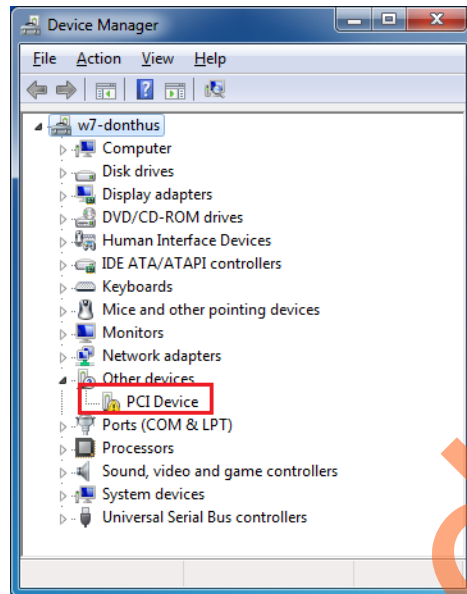
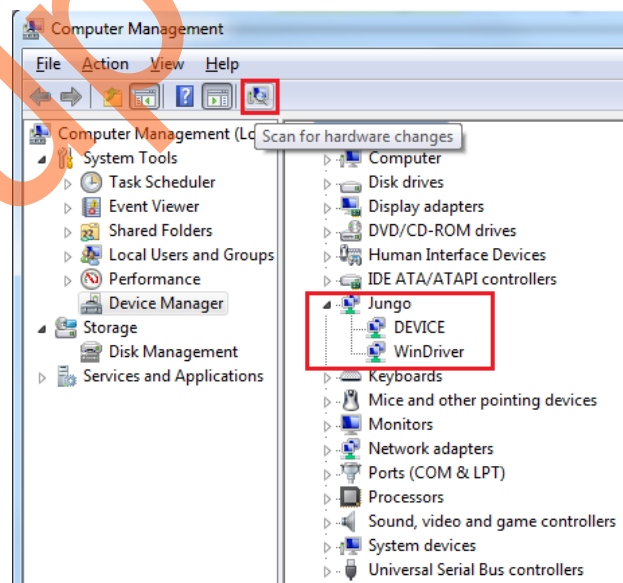

Figure 7 • Device Manager - PCIe Device Detection
Figure 12 • Device Manager - PCIe Device Detection
- Power on the host PC and check the host PC's **Device Manager** for **PCIe Device**. It will be similar to Figure 7. If the device is not detected, power cycle the SmartFusion2 Development Kit and click "scan for hardware changes" (as shown in Figure 12 on page 17) in **Device Manager**. If the host PC has any other installed drivers (previous versions of Jungo drivers) for the SmartFusion2 PCIe device, uninstall them and make sure that the PCI Device is displayed in the Device Manager window as shown in Figure 7.
1. Check the host PC **Device Manager** for the drivers. It will be similar to Figure 12. If the device is not detected, power cycle the SmartFusion2 Development Kit and click "scan for hardware changes" in **Device Manager**.